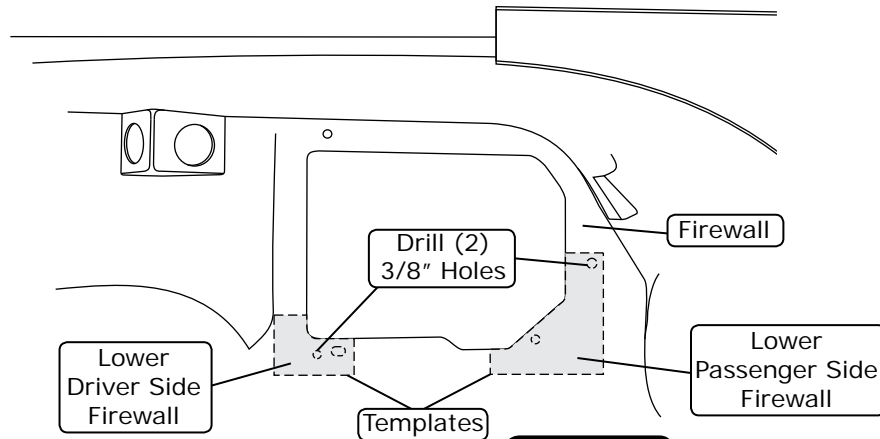

Figure 10
1. Cut out the templates provided on Page 30. Working in the passenger compartment, place the templates on the firewall as shown in Figure 10, below.
2. Once templates are aligned correctly and taped into place, mark the mounting hole locations on the firewall. Once the holes are marked in the correct location, drill (2) 3/8" holes in the firewall for the firewall cover (See Figure 10, below).